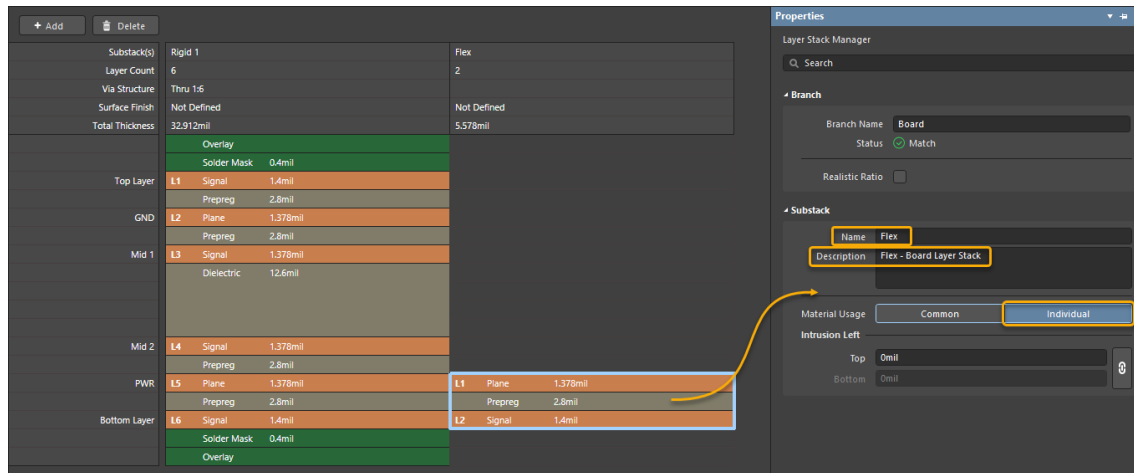

Figure 12. Name the second stack for the Flex section
31. With the second stack displayed as the active Stackup, open the *Properties* panel if needed (Figure 12 on the following page) and follow the steps below:
33. Change *Material Usage* to **Individual**, as shown in Figure 12.